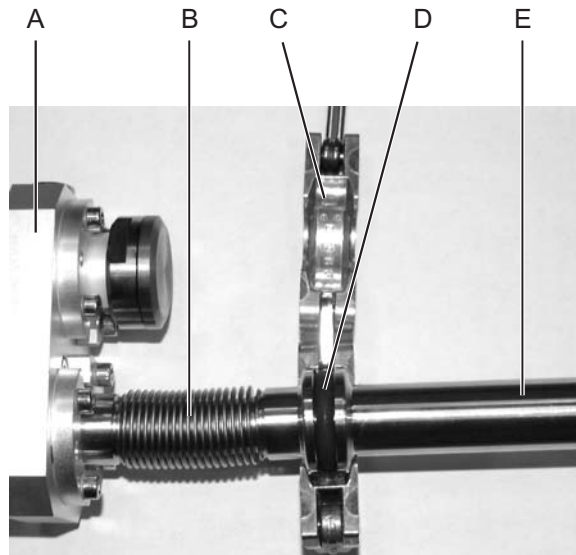

Figure 42: Beam path shielding accessory
13. Remove the beam path tube, centering ring and clamping ring from the flexible tube (see Figure 42).
Key to Figure 42:
Attach the clamping ring, centering ring and beam path tube to the flexible tube (see Figure 42 on page 122) and close the clamping ring to assemble the beam path shielding.